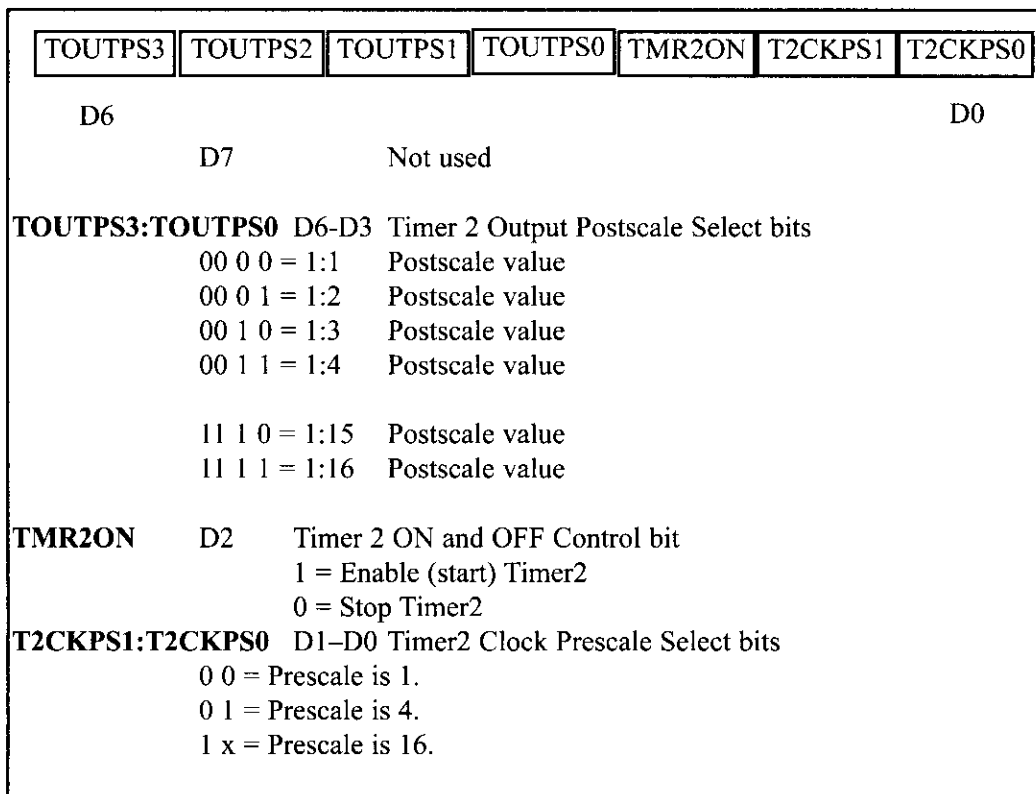

Figure 15-14. T2CON (Timer2 Control) Register
4. Using the T2CON register, set the prescale value. See Figure 15-14.